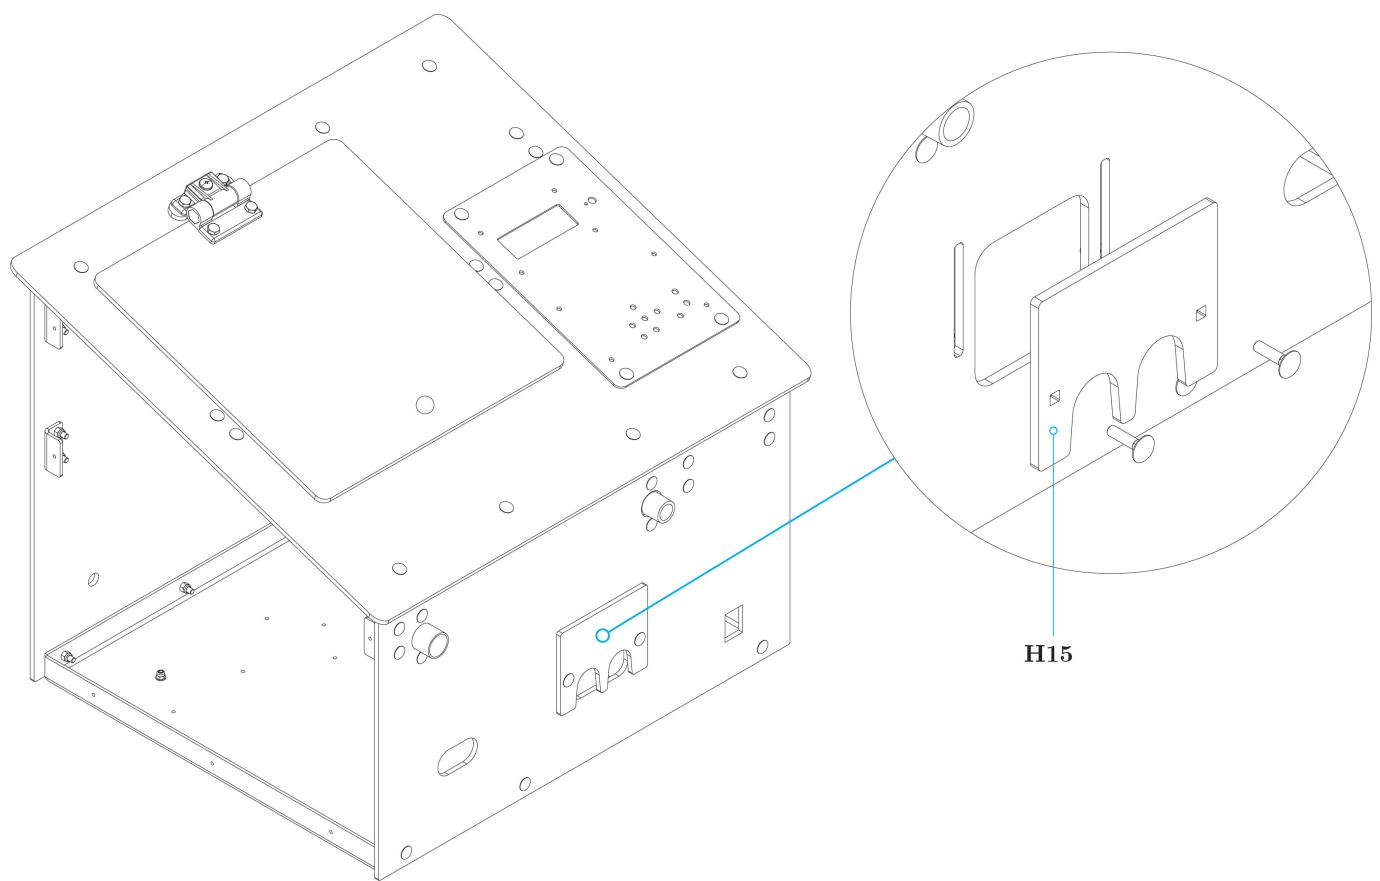

Figure 16: Mount Front Sensor Cover to Front Plate
1. Connect the HA2 Back Plate Assembly to the Frame with 3 H18 Carriage Bolts and H19 Nuts as depicted in figure 16.
2. Connect the HA3 Front Plate Assembly to the Frame with 3 H18 Carriage Bolts and H19 Nuts as depicted in figure 16.